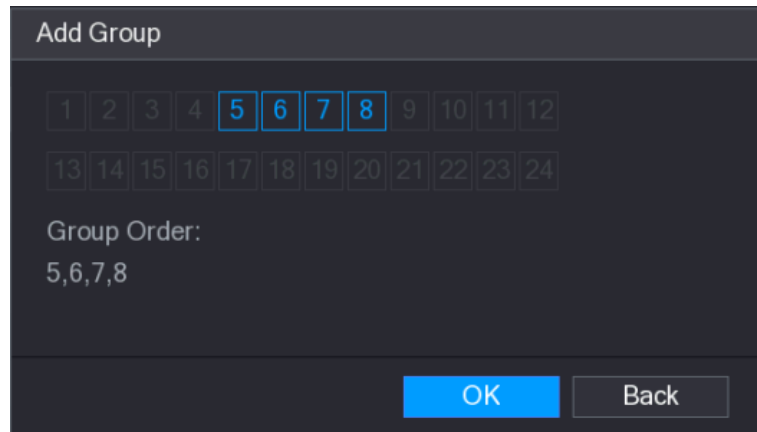

Figure 5-47
Step 2 Select the channels that you want to group for tour. See Figure 5-47.